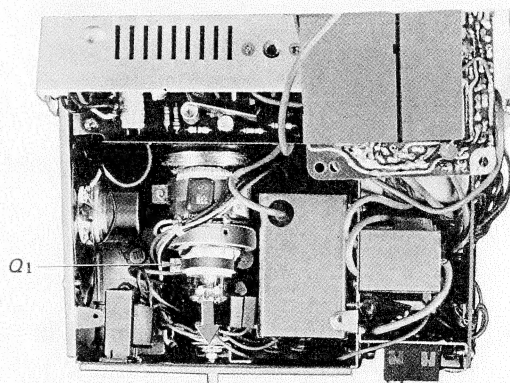

Fig. 2-19
3. Loosen a screw labeled Q1 in Fig. 2-19.